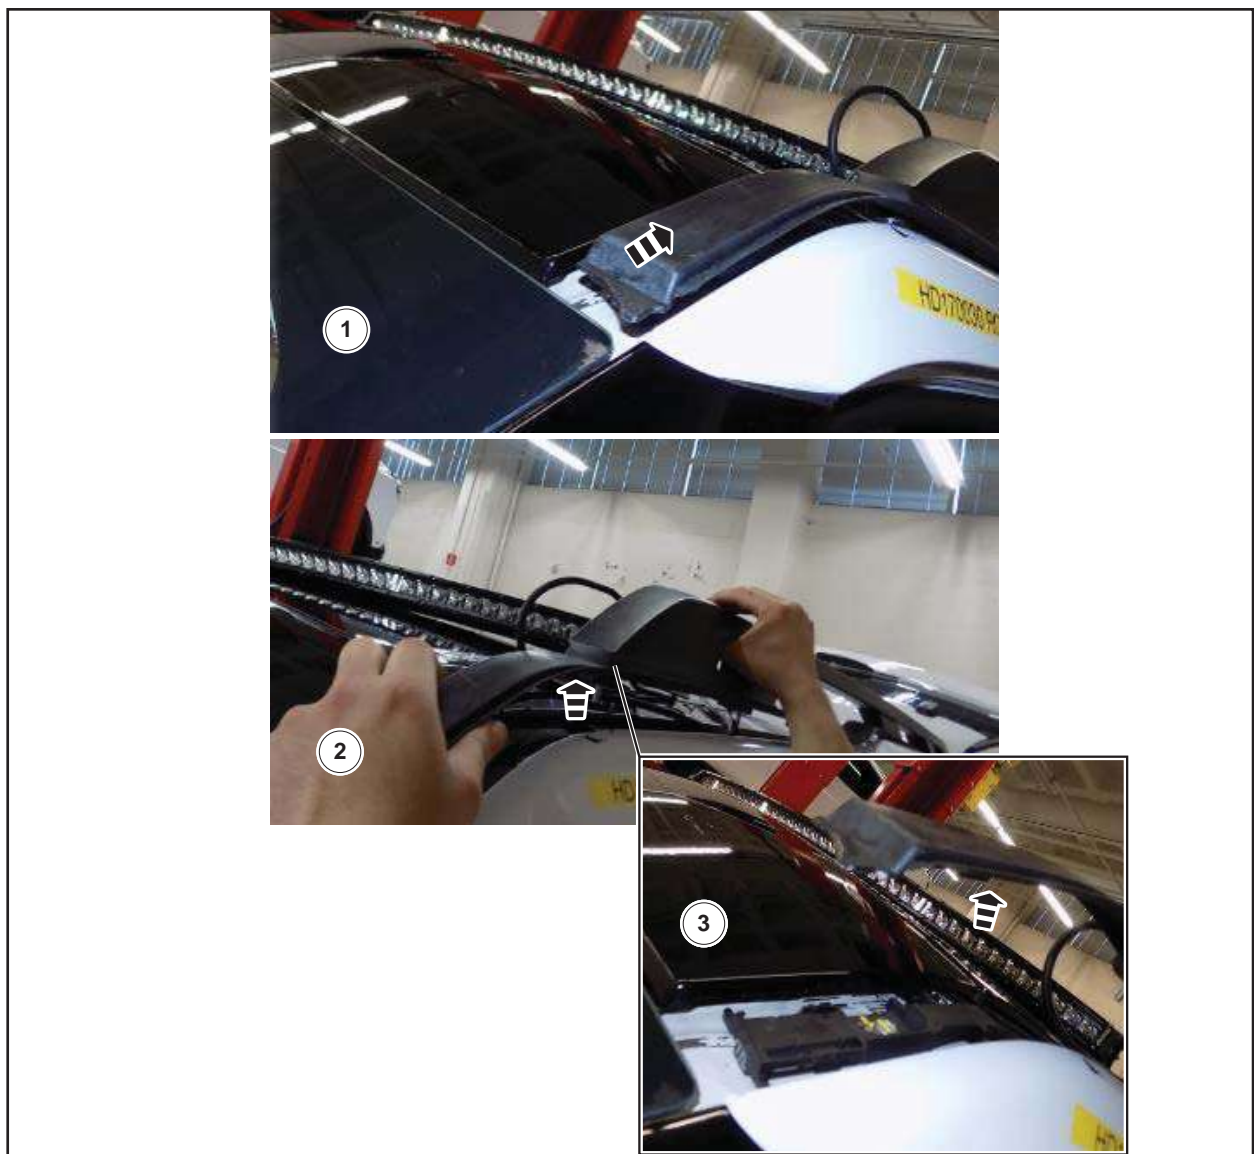

FIGURE 34
34. Position upward the front portion of the LH side rail. See Figure 34.